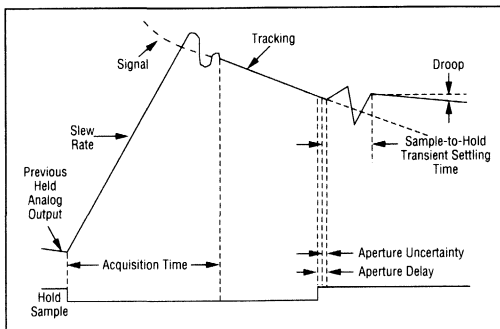

Figure 2. SHA2200 Timing Diagram.
Sample-and-hold amplifiers are often used to sample many channels at the same instant in time, such as in seismic data acquisition, and to reduce the time uncertainty (and resultant amplitude error) when digitizing fast time-varying signals. Practical systems have inherent finite sampling apertures; however, the SHA2200 minimizes this time to an aperture uncertainty of 10 ps. Figure 2 illustrates the typical timing of the SHA2200 (5). If a system uses an A/D converter without a sample-and-hold, the time uncertainty is the conversion time of the A/D converter, which is several orders of magnitude longer than the S/H's aperture uncertainty.